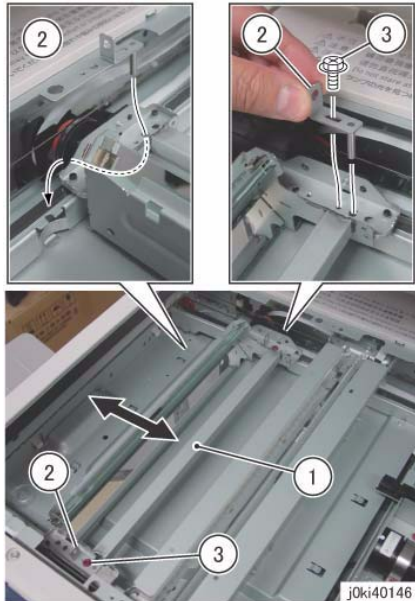

Figure 4 Position the Half Rate Carriage
9. Position the Half Rate Carriage. (Figure 4)